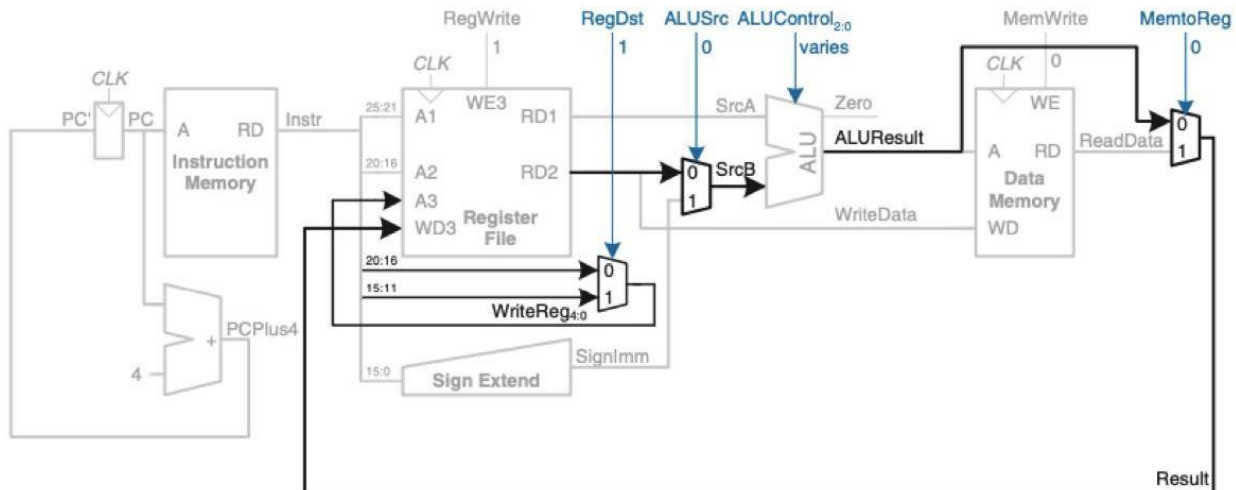

Figure 7.9 Datapath enhancements for R-type instruction
See Figure 7.9 in Appendix 1.0 for more information on these MUXs.
For the following labs, we are going to design a simple digital system which is a demo of a modern computer with RISC architecture. Lab 7 is part 2 of the final lab, which is to implement a single datapath RISC architecture (shown below as Figure 7.9) using SystemVerilog.
**[Important]** The above figure only shows the main component of a RISC architecture. A complete single datapath RISC architecture is given in **Figure 7.9** above.